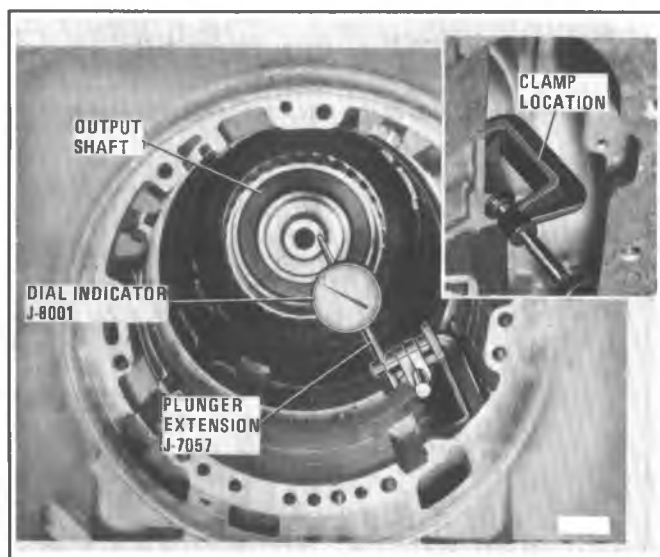

Figure 7A6-57 Installing Tools on Forward Clutch Shaft
c. Install dial indicator J-8001 and plunger extension J-7057. Position extension against end of output shaft and set dial indicator to zero (Figure 7A6-57).